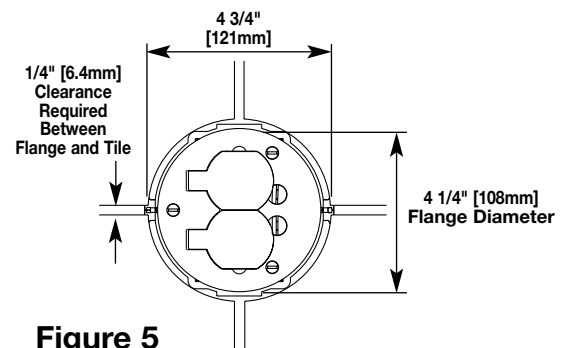

Figure 5
3. 1/4" [6.4mm] of grout is required between tile flange and tile (see Figure 5).